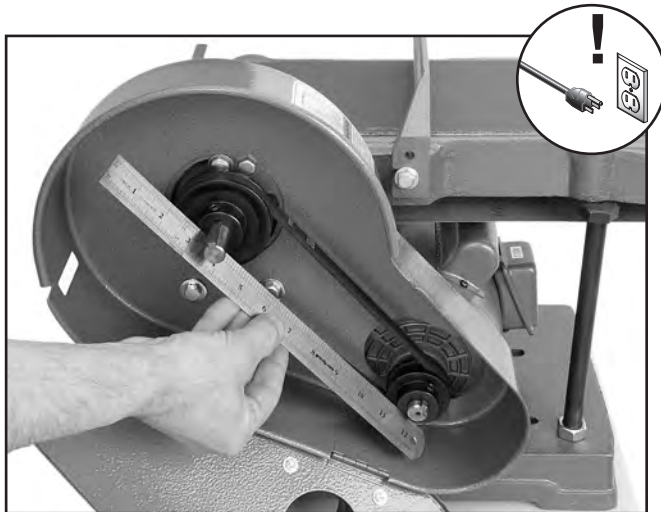

Figure 93. Checking pulley alignment.
5. Place a 12" straightedge across both pulleys, as shown in **Figure 93**.
6. Loosen the set screw on the pulley where you noticed the gap, then adjust the pulley so it touches the bottom of the straightedge when it is extended across both pulleys, as shown in **Figure 93**.